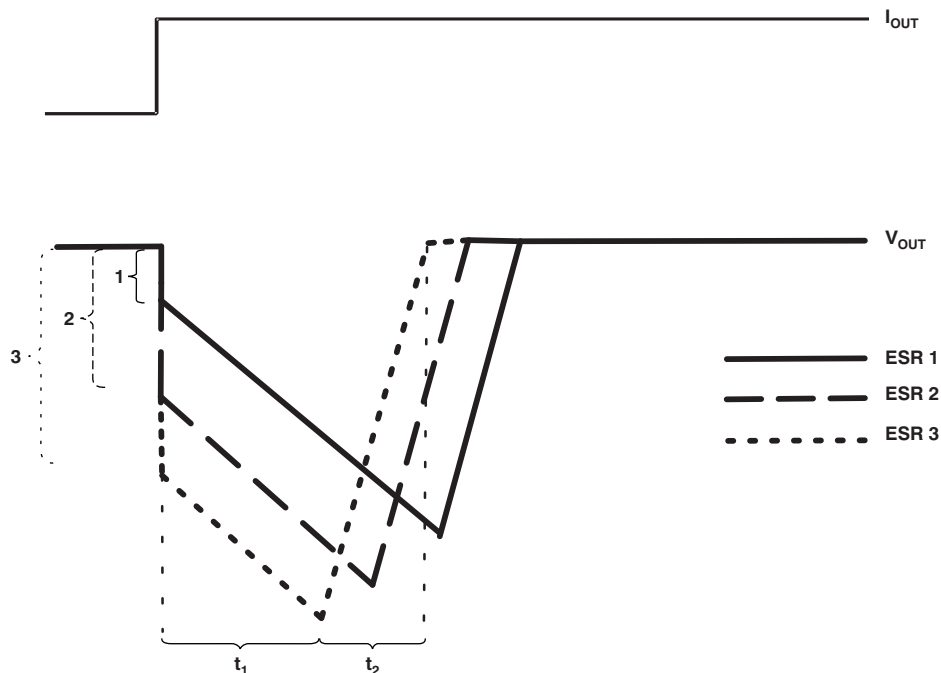

Figure 39. Correlation of Different ESRs and Their Influence on the Regulation of V_O at a Load Step from Low-to-High Output Current
- When C_O is conducting current to the load, initial voltage at the load will be $V_O = V_{(CO)} - V_{ESR}$. As a result of the discharge of C_O , the output voltage V_O drops continuously until the response time t_1 of the LDO is reached and the LDO resumes supplying the load. From this point, the output voltage starts rising again until it reaches the regulated voltage. This period is shown as t_2 in Figure 39.
Figure 39 also shows the impact of different ESRs on the output voltage. The left brackets show different levels of ESRs where number 1 displays the lowest and number 3 displays the highest ESR.